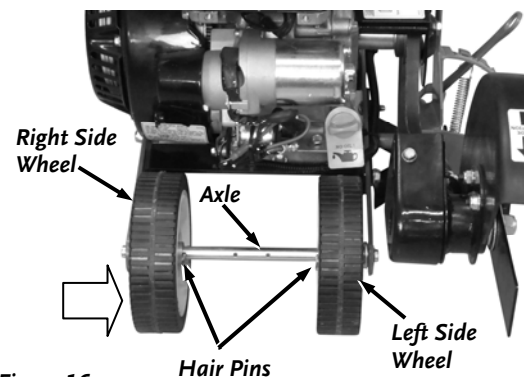

Figure 16
2. Pull the two Hair Pins from the Axle (*Figure 16*). Slide the right side Wheel over against the left side Wheel. Insert one Hair Pin next to the Wheel to secure it. Insert the remaining Hair Pin in one of the remaining holes of the Axle.